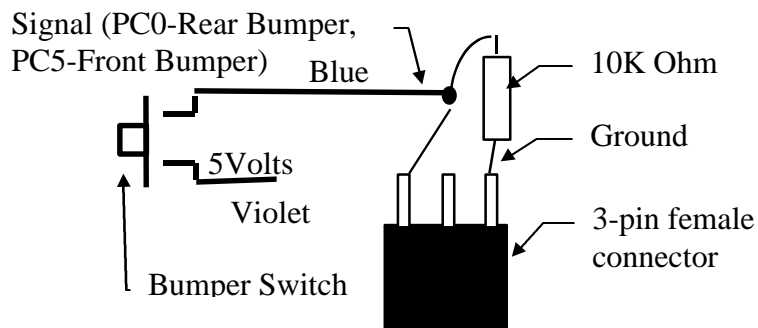

Figure 20 Three pin female bumper connector. Plugs onto MSCC11E2 male header.
4. Make two three pin female connectors (Figure 20) with 10K ohms soldered between the two outside pins. Wire the three front bumper tactile switches in parallel and connect their common nodes to the three pin. The single back bumper switch is wired as shown.